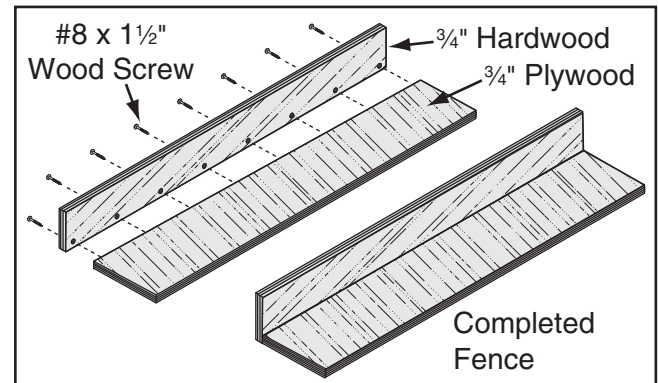

Figure 84. Location of pilot holes.
2. Pre-drill and countersink eight pilot holes $\frac{3}{8}$ " from the bottom of the 3" wide board, then secure the boards together with eight #8 x $1\frac{1}{2}$ " wood screws, as shown in **Figure 84**.